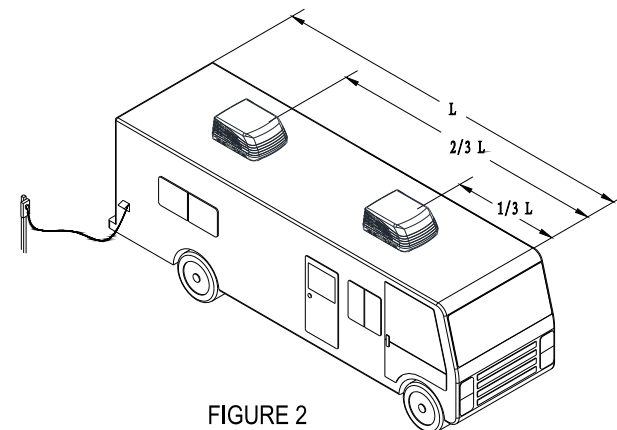

FIGURE 2
2. For two unit installation: Install one air conditioner 1/3 distance and the other air conditioner 2/3's from front of RV and centered from side to side. See FIG.2.